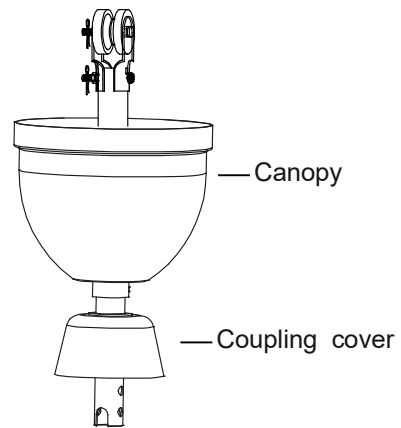
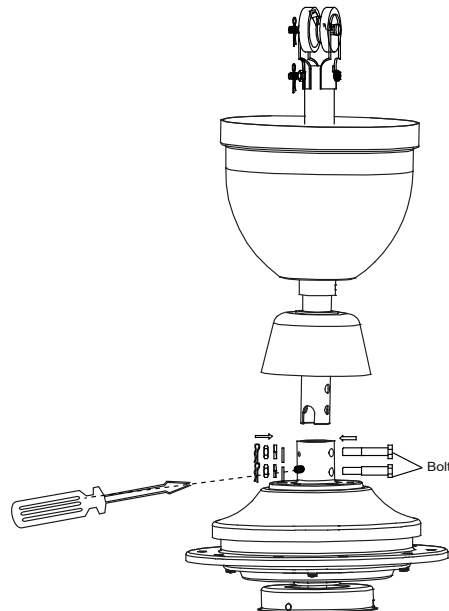

Fig.4
Fig.5
2. Insert the downrod through the canopy and coupling cover(Fig.4) . Align the holes at the bottom of the downrod with the holes in the motor bracket on top of the fan motor assembly.(Fig.5)
4. Tighten the two screws on top of the fan motor bracket firmly, Slide down the coupling cover.(Fig.5)